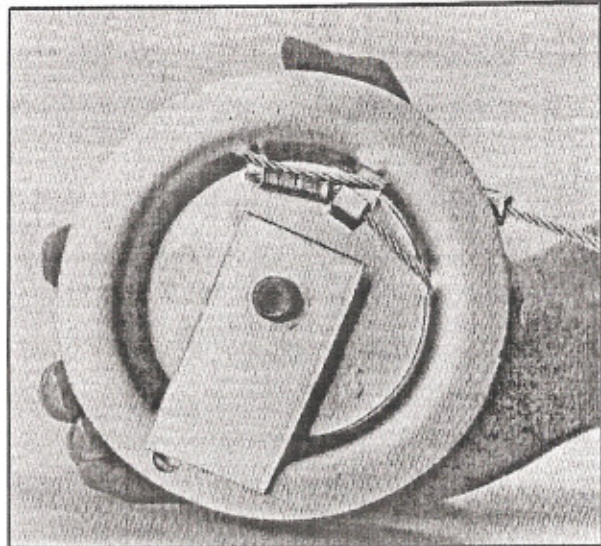

Fig. 29: Rear view of reel showing correctly installed trip line.
3) Use a small screwdriver through the hole in the spring reel drum to remove the end of the tripline from the locking finger. See Fig. 29.
12) Pull the line up over the finger and into the slot between the finger and the drum. A completed rear view of this step is shown in Fig. 29.
slack around the drum. See Fig. 29.